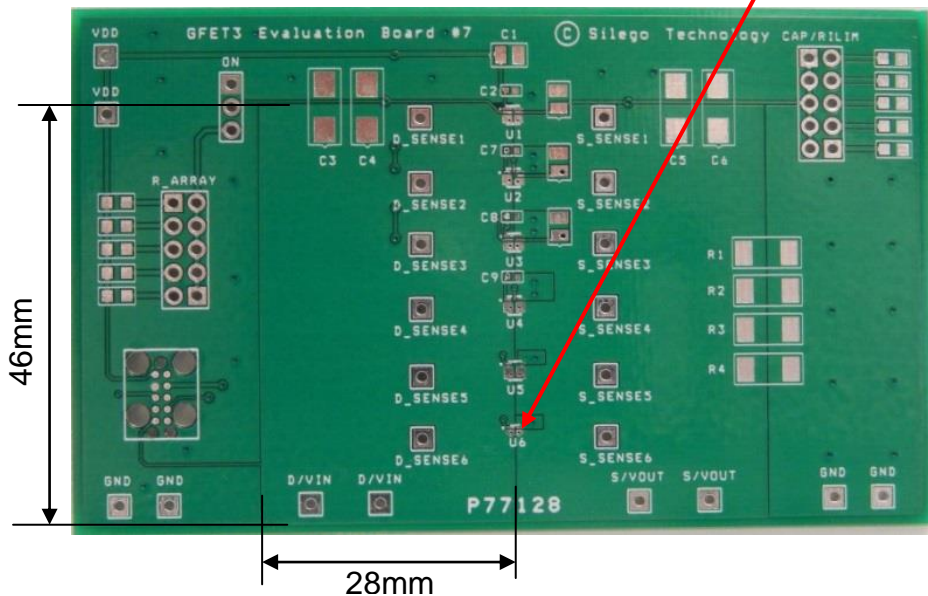

Figure 3. SLG59M1442V Evaluation Test Board
2.2. The D/VIN and S/VOUT pins carry significant current. Please note how the D/VIN and S/VOUT pads are placed directly on the power planes in Figure 3, which minimizes the RDS(ON) associated with long, narrow traces. The D/VIN, S/VOUT and GND pins dissipate most of the heat generated during high-load current condition. The layout shown in Figure 3 is illustrating a proper solution for heat to transfer as efficiently as possible out of the device.